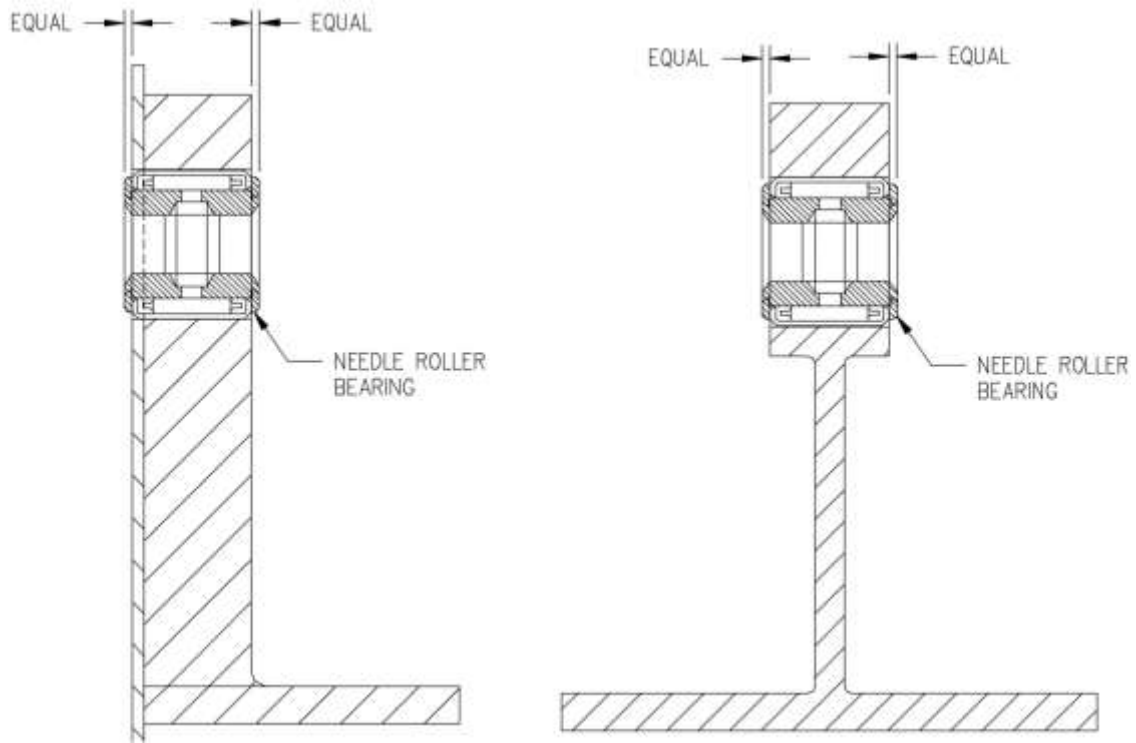

**Figure 2 – Modified Hinge and lug dimensions (in inches)
3. Increase the diameter of the lug bore to between 0.6245" and 0.6255". Maintain the original lug centreline and bore perpendicularity as shown in Figure 2, and make sure the lug bore has a maximum surface roughness of 32 Ra.